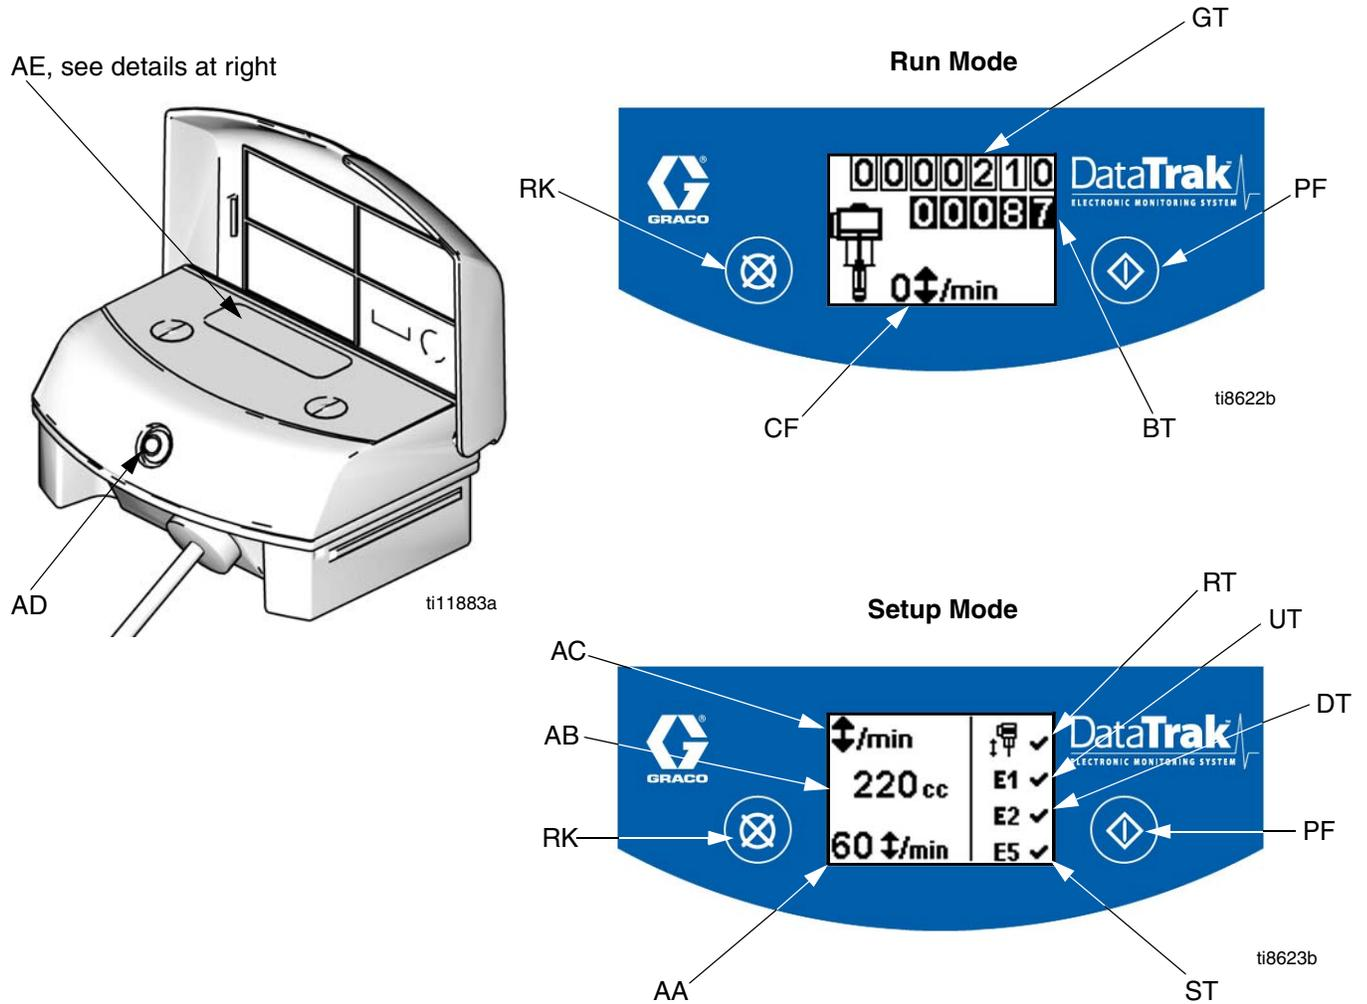

FIG. 8. DataTrak Controls and Indicators
## Key for FIG. 8
1. See FIG. 8. Press and hold  for 5 seconds until Setup menu appears.
**NOTE:** When runaway, E1, E2, and E5 error options are enabled, a ✓ will appear on the setup screen. See FIG. 8.
1. See FIG. 8. If pump runaway occurs, the runaway solenoid will actuate, stopping the pump. The LED (AD) will flash and the display (AE) will indicate a runaway condition (see Table 1). The display will cycle through six instruction screens.
2. Runaway Screens 1 and 2: To reset the runaway solenoid, close the master air valve (E). Wait for air to completely bleed off the air motor.
5. Open master air valve (E) to restart pump.
**NOTE:** To disable runaway monitoring, go to setup mode and set runaway value to 0 (zero) or toggle (RT) off  (see FIG. 8).
1. See FIG. 8. To enter Prime/Flush mode, press any key to wake up the display, then press . The Prime/Flush symbol will appear in the display and
See FIG. 8. The last digit of the batch totalizer (BT) represents tenths of gallons or liters. To reset the totalizer, press any key to wake up the display, then press and hold  for 3 seconds.
See FIG. 8. The display (AE) will turn off after 1 minute of inactivity in Run mode or 3 minutes in Setup mode. Press any key to wake up the display.
**NOTE:** The display (AE) may turn off if a high-level static discharge is applied to the DataTrak. Press any key to wake up the display.
DataTrak can diagnose several problems with the pump. When the monitor detects a problem, the LED (AD, FIG. 8) will flash and a diagnostic code will appear on the display. See Table 1.